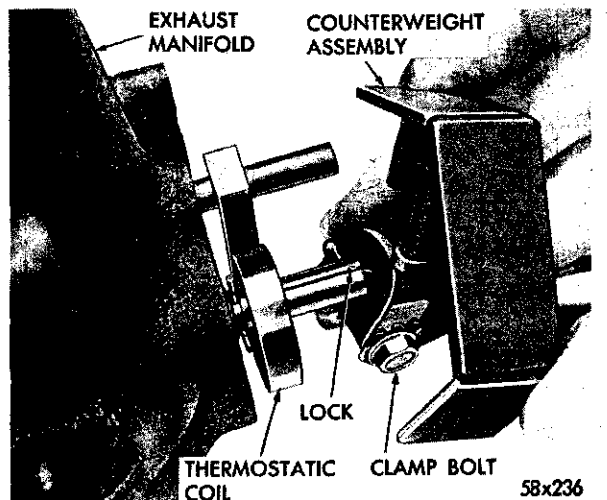

Fig. 11—Installing the Counterweight on the Heat Control
(3) Move the outer end (tongue) counter-clockwise and hook under the pin, as shown in Figure 11.
(4) Place the counterweight assembly over the shaft (with the weight in the upward position) and insert the lock in the shaft slot, as shown in Figure 11. **If the composition on the stop is worn, replace with a new stop.** Center the counterweight on the shaft and turn the assembly clockwise until the stop passes the pin. Press the counterweight on the shaft until seated and tighten the clamp bolt 50 inch-pounds with torque wrench Tool C-3380. Test the valve for proper operation.